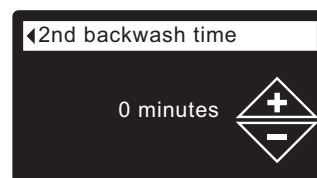

FIG. 76
- 8e. **Second backwash time:** Press the UP (▲) or DOWN (▼) buttons to change the second backwash time. Hold the button down to rapidly advance. The time can be set from 0 to 15 minutes (See Figure 76).